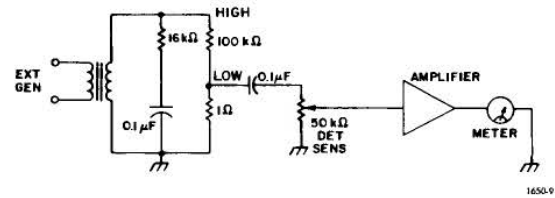

Figure 6-3. Schematic for checking the detector circuit.
c. Connect an external oscillator (1 kHz) to the EXT GEN jack. Turn the CGRL control full cw. This sets up the circuit of Figure 6-3.
Use the setup of Figure 6-3 and measure the rms voltage between the HIGH terminal and the case. With the oscillator level full cw it should be within the range of 0.9 V to 1.1 V.